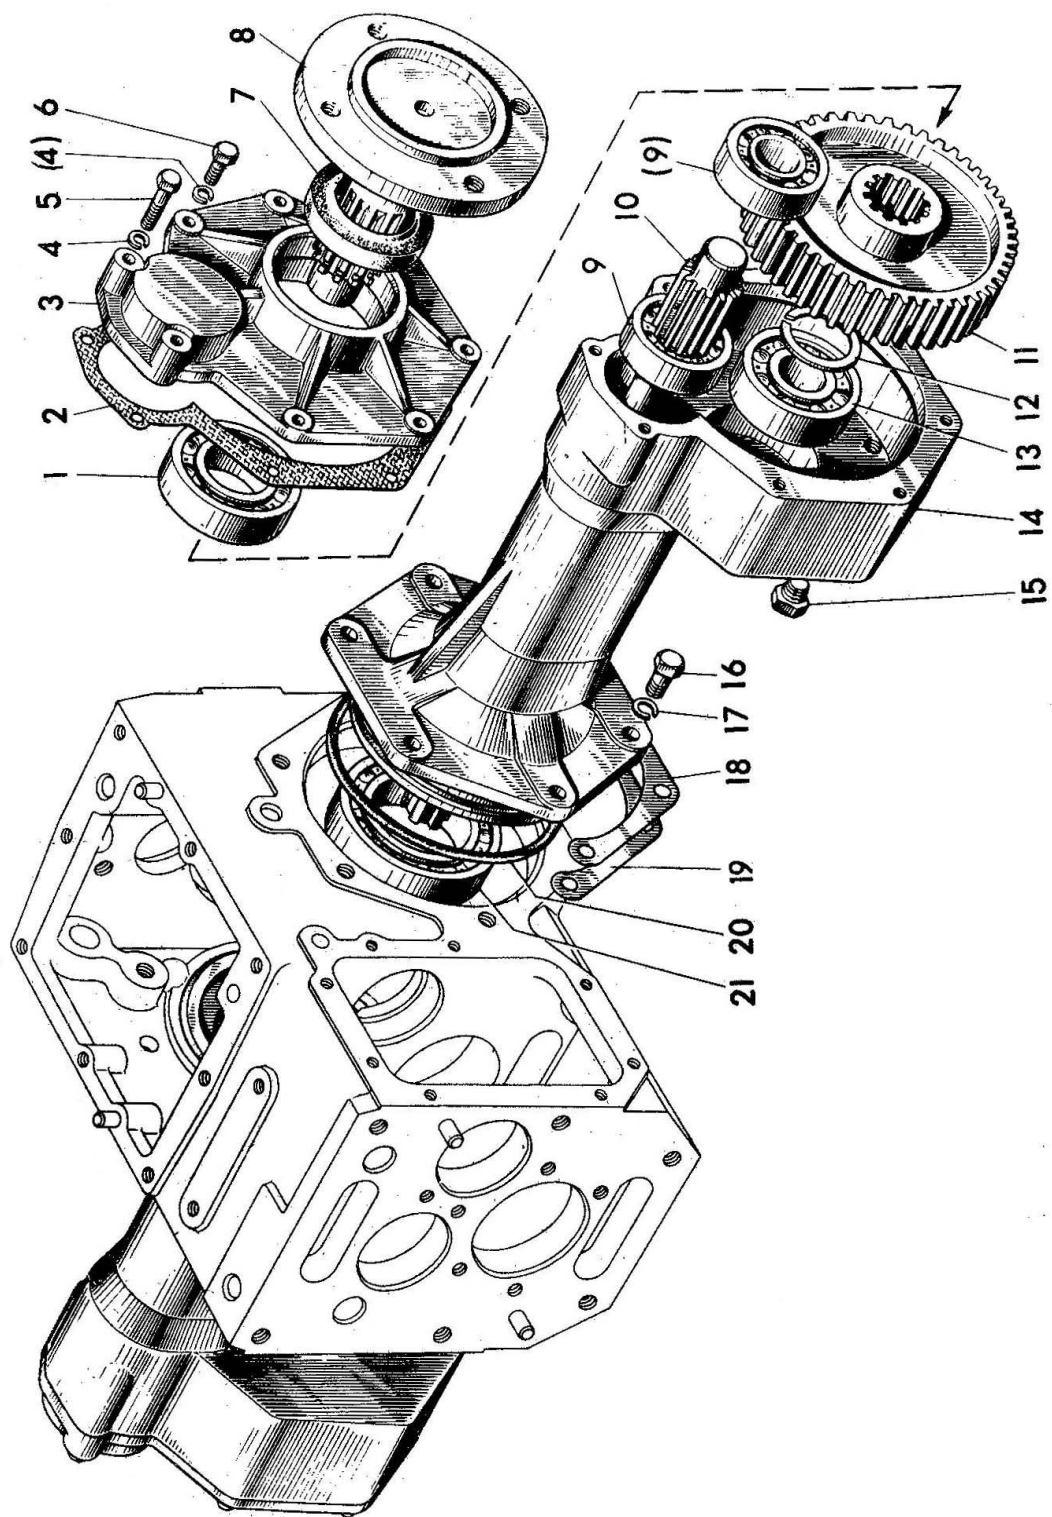

Figure 7 – Final drive
**05-2407. Final drive** (figure 7)